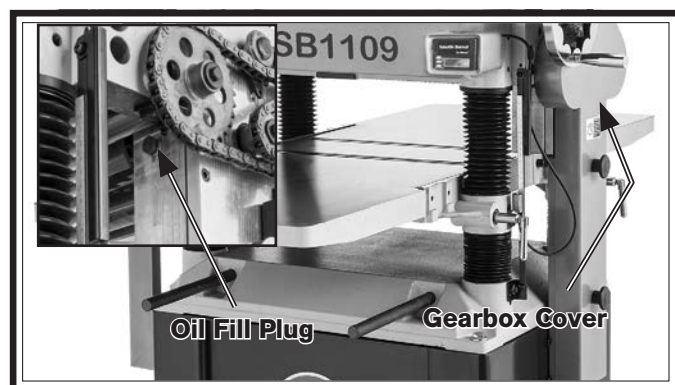

Figure 23. Location of gearbox oil fill plug.
1. Remove gearbox oil fill plug (see **Figure 23**).
Note: For easier access to the fill plug, remove gearbox cover (see **Figure 23**).